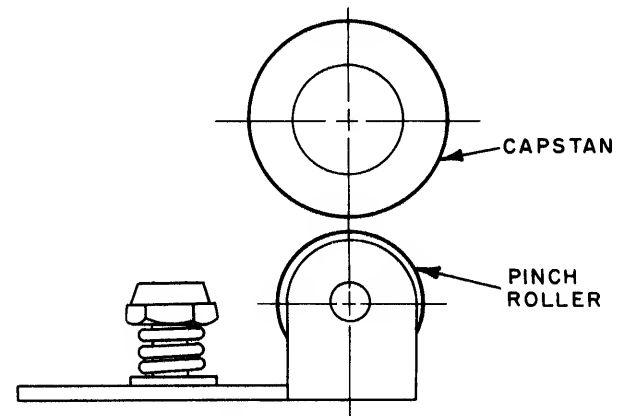

Figure 5-6. Pinch Roller/Capstan Centerline Adjustment
- b. Loosen two screws (Figure 6-2, item 4) which attach pinch roller bracket to flat-spring and adjust so that pinch roller centerline falls directly under (or above for reverse pinch roller assembly) centerline of capstan (see Figure 5-6); retighten screws securely.